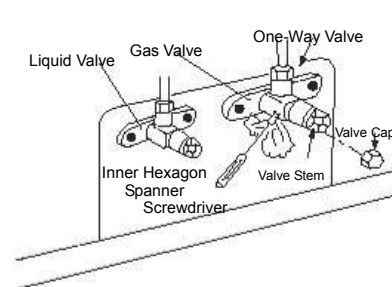
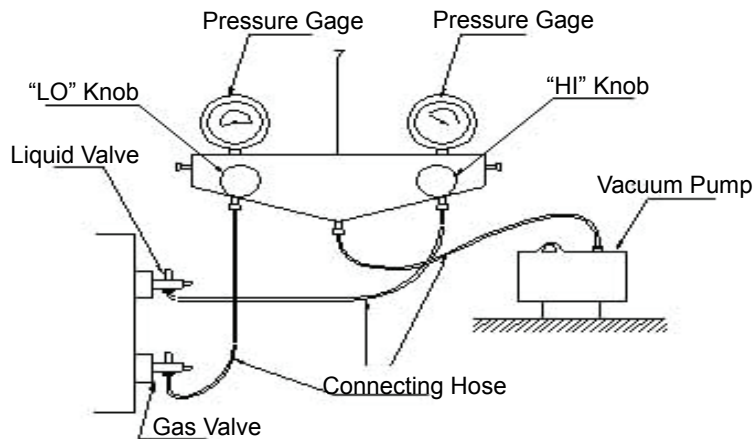

Fig. 11-17
Fig. 11-18
- (1) Align the flared end of the copper pipe with the center of the thread joint. Manually tighten the flared end nut.
- (2) Use torque spanner to tighten the flared end nut until the spanner clatters (See Fig.11-17).
- (3) The bending angle of the fitting pipe shall not be too small, and otherwise the pipe may break. Please use a bender when bending the fitting pipes.
- (4) Use sponge to wrap the connecting pipe and joint without thermal insulation, and use plastic tape to bundle the sponge.
- (5) Remove the cap of the liquid valve and the gas valve.
- (6) Use an inner hexagon spanner to turn the spool of the liquid valve for 1/4 circle. At the same time, use a screwdriver to lift the spool. Then there is discharge of gas.
- (7) Refrigerant gas shall appear after the gas is discharged for 15 seconds. Now close the one way valve immediately and tighten the bonnet.
- (8) Fully open the spools of the liquid valve and the gas valve (refer to Fig. 11-17).
- (9) Tighten the valve cover. Then use soap water or leakage detector to check if there is leakage at the position where the indoor unit or the outdoor unit is connected with pipelines.
- (10) If possible, use a vacuum pump to remove air out from the valve. Refer to Fig. 11-18